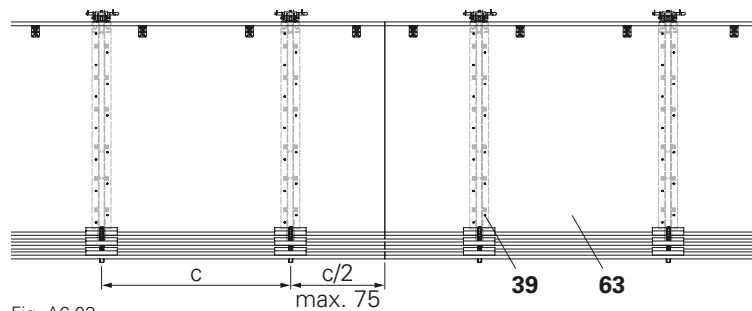

Fig. A6.03
- When mounting the platform on the floor, only a multi-layer plywood sheet can be used as deck (cantilever = $c/2$, max. 75 cm). (Fig. A6.03)